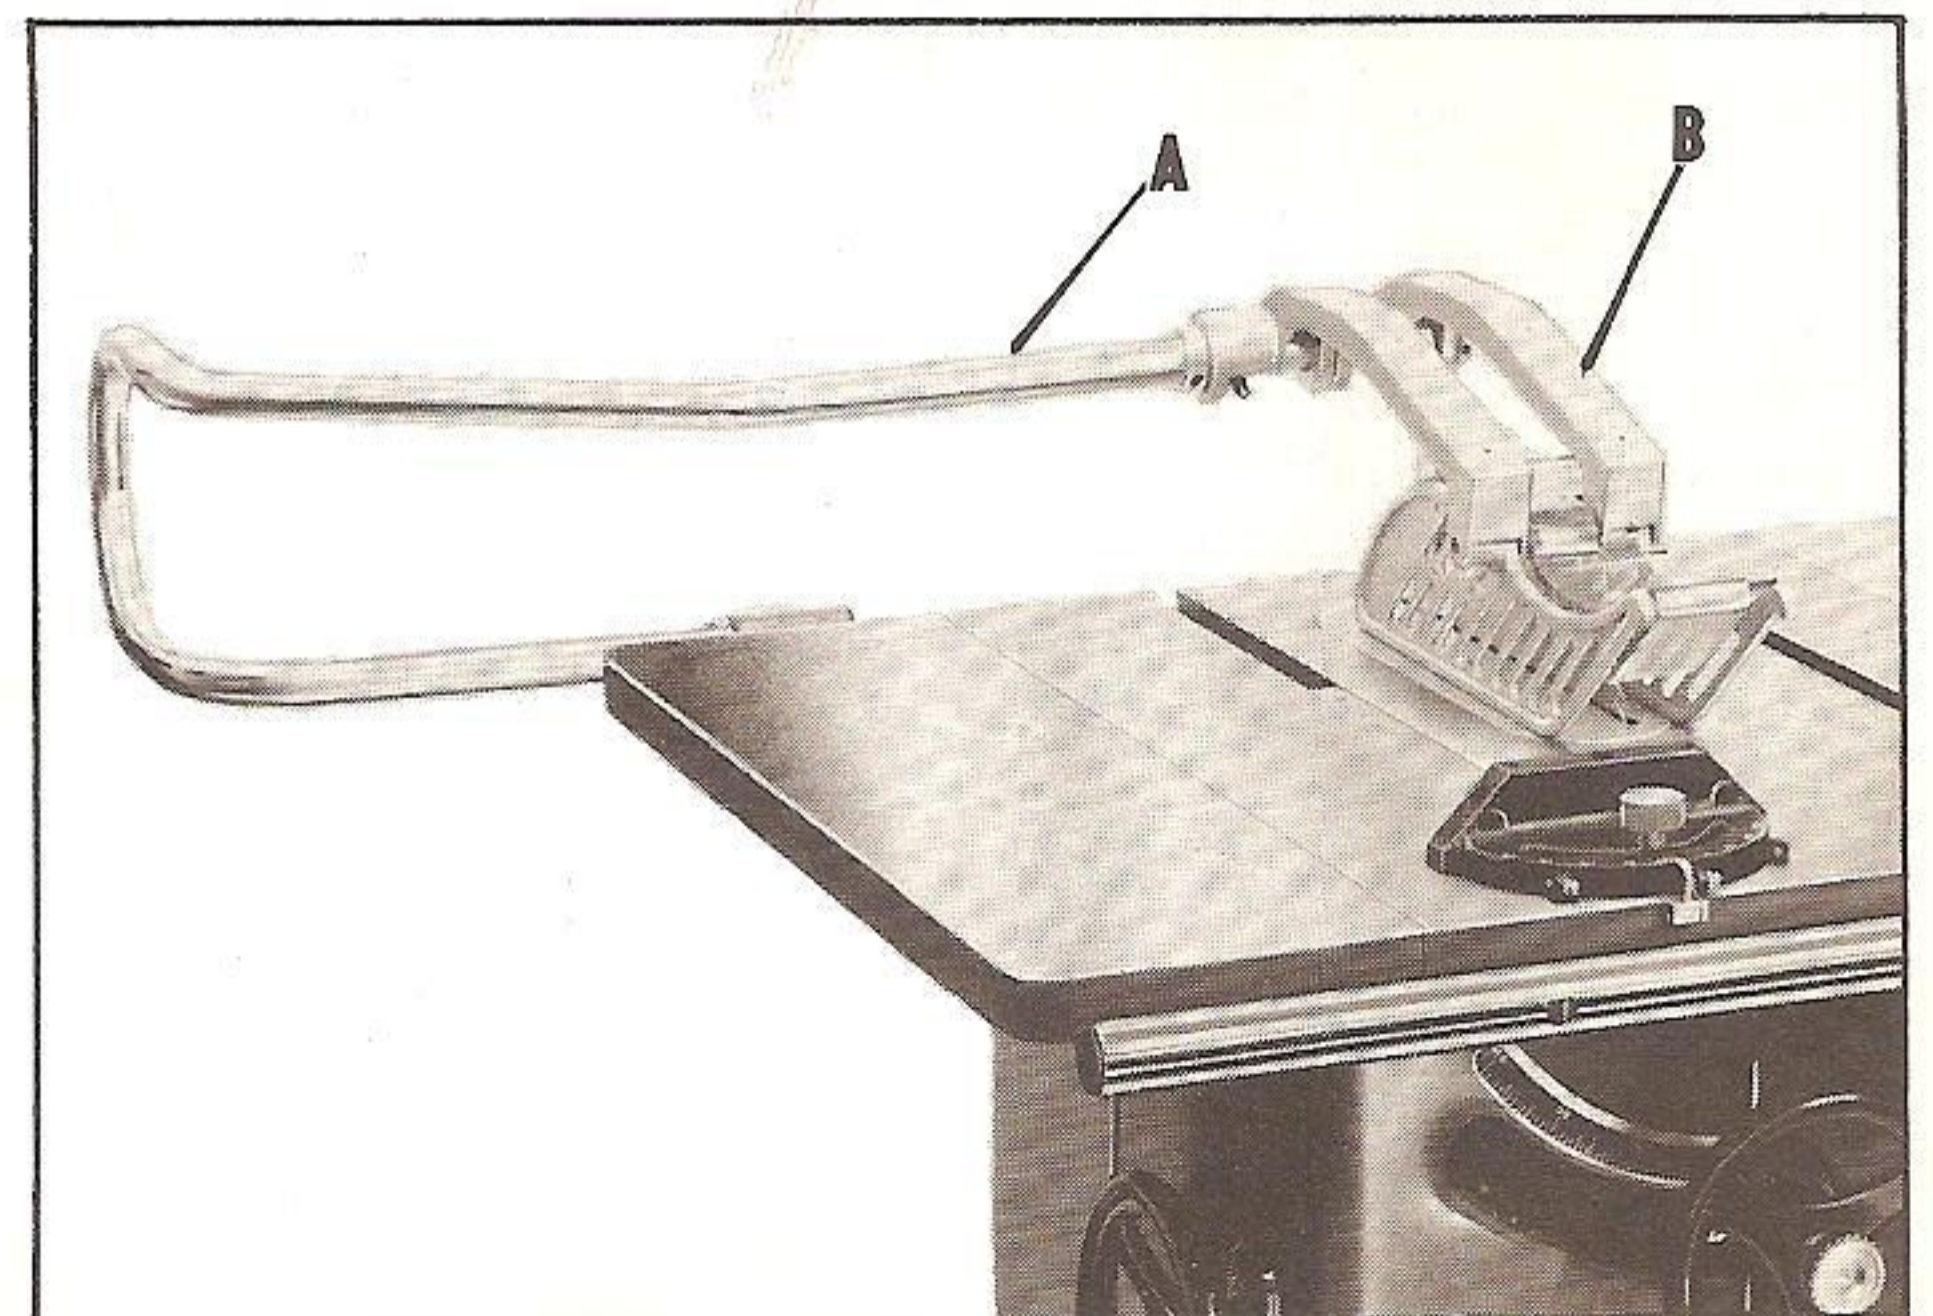

Fig. 19
8. When using a dado head, molding cutter, or ripping narrow stock, the support arm (A) Fig. 19, should be moved to the left. When ripping narrow stock, the right hand basket (B) can be flipped up out of the way and a push stick should be used to complete the feed. The push stick will pass between the left hand basket and the fence. For ripping, cross cutting, or bevel cutting, the support arm (A) should be moved to the right. The blade can then be tilted 45 degrees without striking the right hand basket (B), Fig. 19.